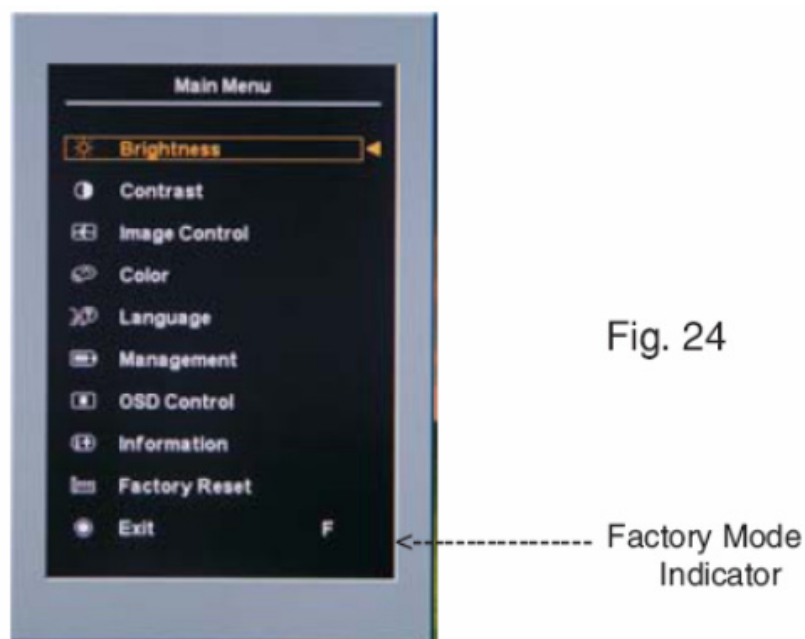

Fig. 24
- 2). [Push "Auto Adjust " and " +(plus)" and hold them at the same time ] + [Press power "Power " button untill comes out "Windows screen"] => then release all button, then press "Menu" button, wait until the OSD menu with Characters "F" (below OSD menu) come on the Screen of the monitor (see Fig. 24).